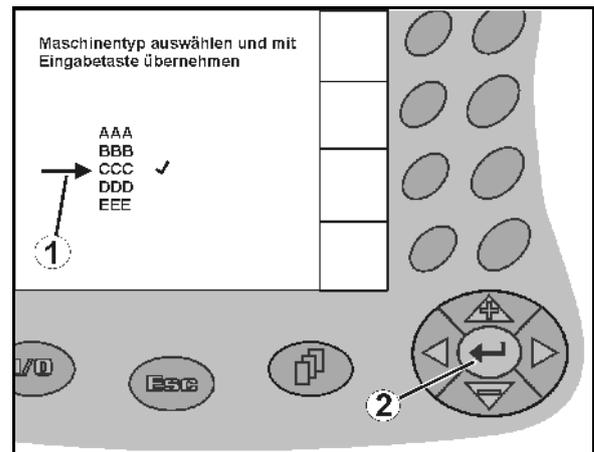

Fig. 13
- Position the selection arrow (Fig. 13/1) with  and .
-  Accept the selection (Fig. 13/2).